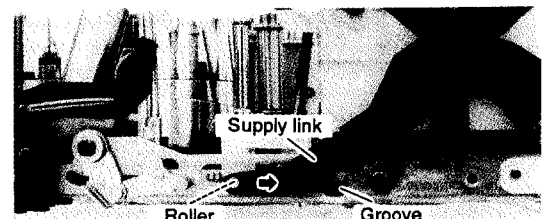
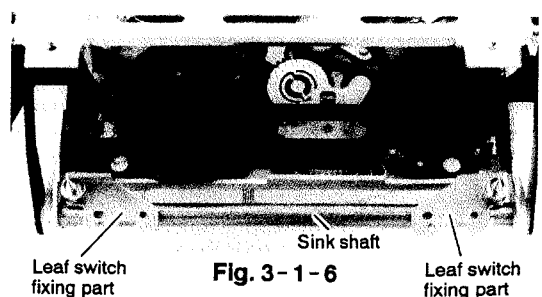

Fig. 3-1-3
Fig. 3-1-6
- ① Set the cassette housing to eject mode.
- ② Remove two screws (a, b) holding the leaf switch.
- ③ Remove two screws (c, d) holding the cassette housing.
- ④ Slide the cassette housing toward you. Push the link on supply side and takeup side (Fig.3-1-3 and 3-1-4) slightly to make clearance for the roller ; and remove the rollers from the grooves in the main plate. Remove the cassette housing.
- ② Push the link on supply side and takeup side (Figs. 3-1-3 and 3-1-4) slightly to make clearance for the roller; and insert the rollers into the grooves. Make sure that the sink shaft is under the fixing part of the leaf switch (see Fig. 3-1-6).